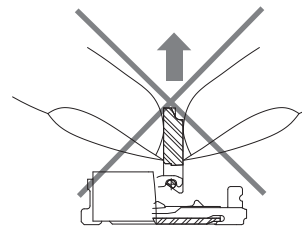

Fig. 3
- ③ The actuator will rotate 125°C Do not apply force to rotate further.
- ④ When opening or closing the actuator, do so at the center section.
- ⑤ Do not grasp or lift the actuator (Fig. 3) nor insert the nail from the back of it (Fig. 4).